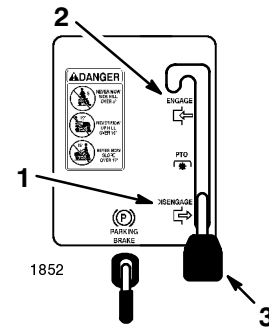

Figure 7
3. Move the blade control (PTO) to “DISENGAGED” (Fig. 7).